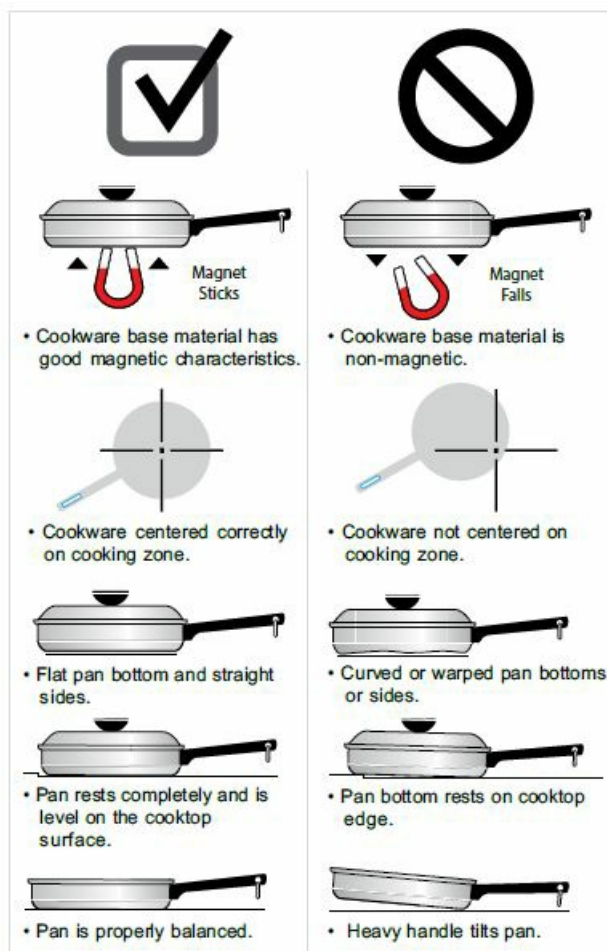

Figure 6: Pan sensing conditions
- Figure 6 shows conditions that can prevent pan detection.